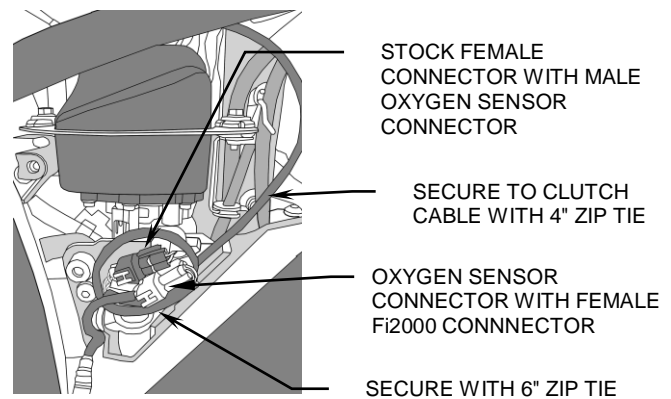

FIGURE 4
5. Route the second Fi2000 harness with the clear connectors forward under the right side frame rail and forward along front of fuel pump tank, then down to the stock oxygen sensor connectors, see Figure 4. Unplug this connection and then plug in the corresponding Fi2000 connectors into the stock connectors. Coil excess wire harness and secure in loop with supplied 6" zip tie. Replace the triangular cover to hide these connectors. Secure the Fi2000 oxygen sensor harness to the clutch cable sheath using the supplied 4" zip tie.